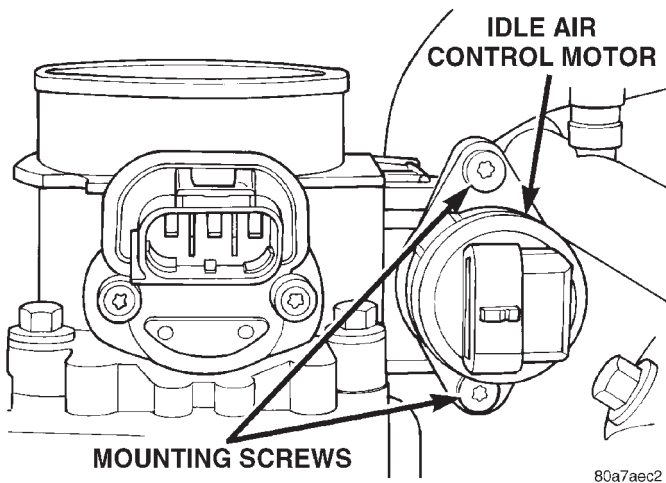

Fig. 45 Mounting Bolts (Screws)—IAC Motor
- (1) Remove air cleaner tube at throttle body.
- (2) Disconnect electrical connector from IAC motor.
- (3) Remove two mounting bolts (screws) (Fig. 45).
- (4) Remove IAC motor from throttle body.